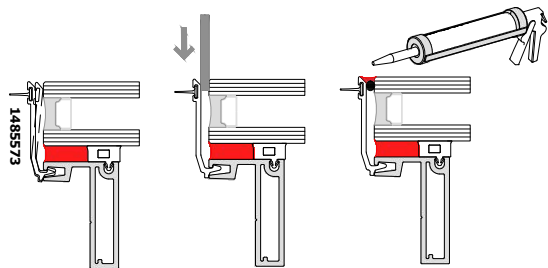

FIG. 7
- For Window Wall & SF applications install supplied 1485573 Glass Surround on all four sides. See FIG 7.